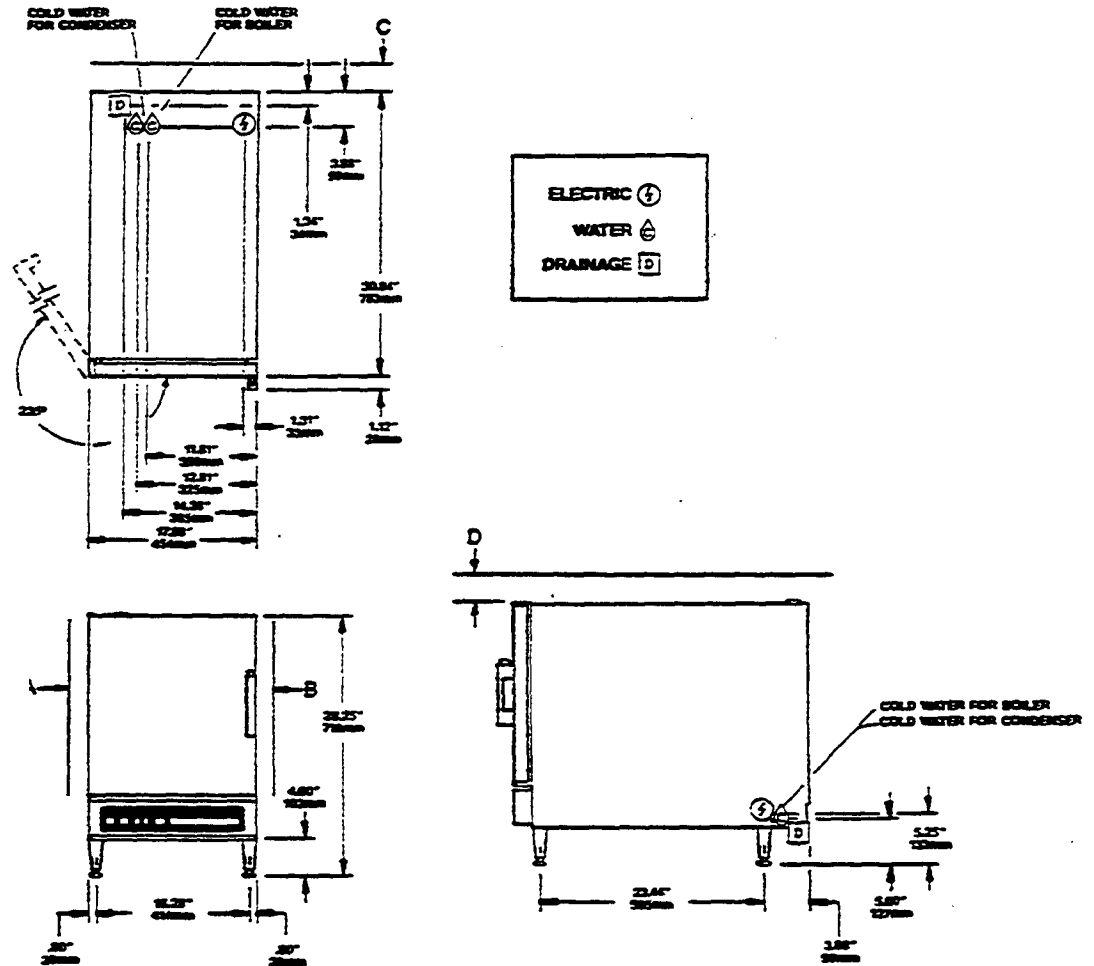

Figure 2-4. SteamCraft V Dimensions and Clearances
- The SteamCraft V takes up a minimum of counter space. Figure 2-4 illustrates the dimensions and clearances required. The 3" clearance at the rear includes spacing for the water inlet strainer and fittings, and the maximum size (2" NPT) drain fittings.
- Figure 2-4 illustrates a left hand door hinge. A right hand door hinge (model # DHR-5) is also available for the SteamCraft V.
- Note in figure 2-4 that a 3" clearance is required above the SteamCraft V. Do not store articles on top of the unit.